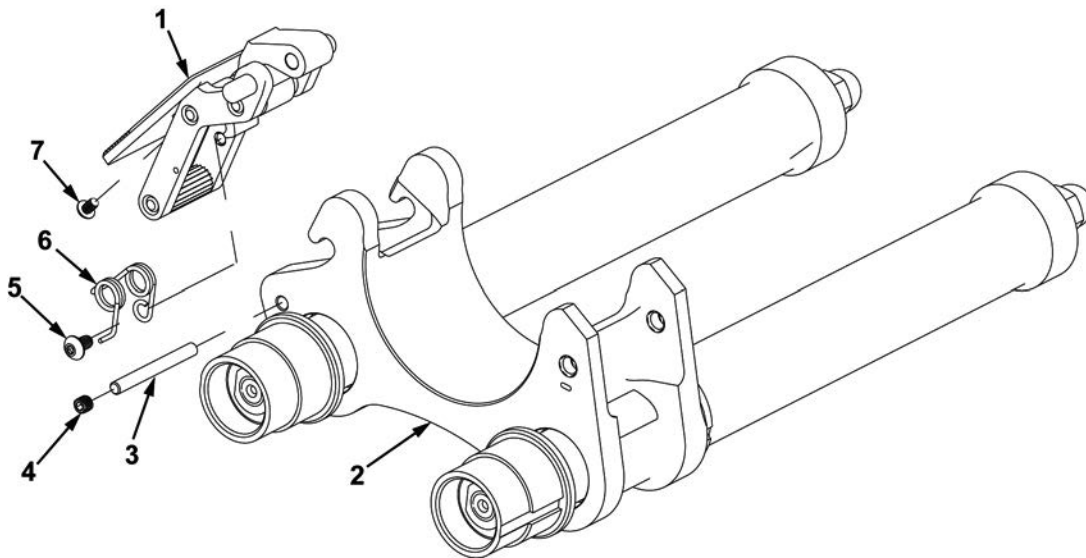

Figure 7. Assembly of Clamping Catch.
4. If removed, apply sealing compound (WP 0032, Item 22) to new setscrew (Figure 7, Item 4).
5. If removed, install buffer latch pin (Figure 7, Item 3) and new setscrew (Figure 7, Item 4) into lower clamp (Figure 7, Item 2).
6. If removed, apply sealing compound (WP 0032, Item 23) to threads of socket head capscrew (Figure 7, Item 7) and socket head capscrew (Figure 7, Item 5).
7. If removed, position new torsion helical spring (Figure 7, Item 6) in clamping catch (Figure 7, Item 1). Align loop of spring with hole in side. Install socket head capscrew (Figure 7, Item 5) through loop. Tighten until seated.
8. Push center of torsion helical spring (Figure 7, Item 6) into slot in clamping catch (Figure 7, Item 1). Install socket head capscrew (Figure 7, Item 7). Tighten until seated. Install straight end of spring into small hole in side of clamping catch.